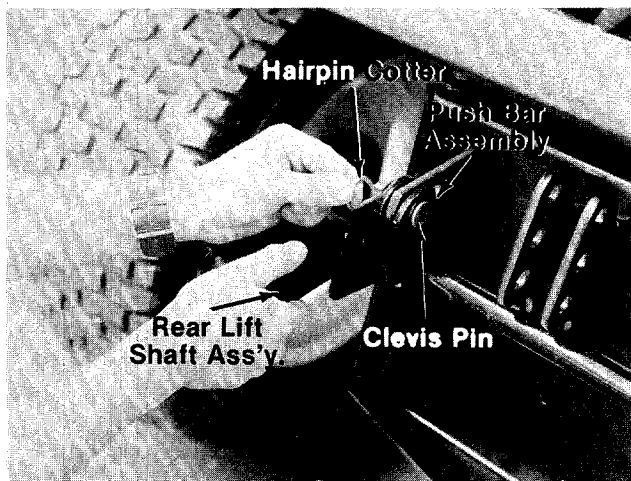

FIGURE 4.
1. Raise the lift shaft assembly until the hole in it lines up with the slot in the push bar assembly. See figure 4.